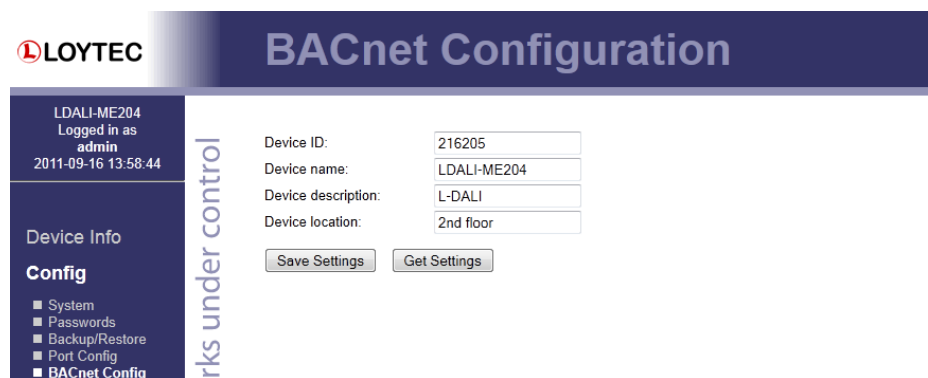

Figure 32: BACnet Device Configuration.
3. Enter a unique device ID and device name as shown in Figure 32.